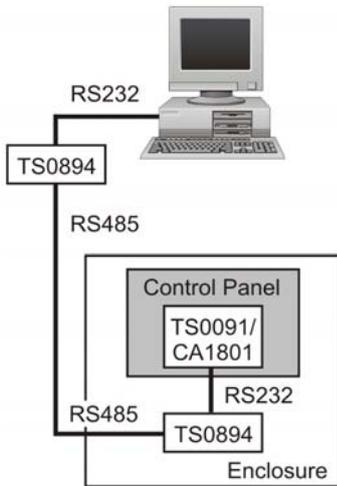

Figure 2: TS0894 used to enable a distant computer connection to a control panel.
- Connecting a computer to a control panel over an extended distance, see Figure 2. Total length of the LAN must not exceed 1500 metres.